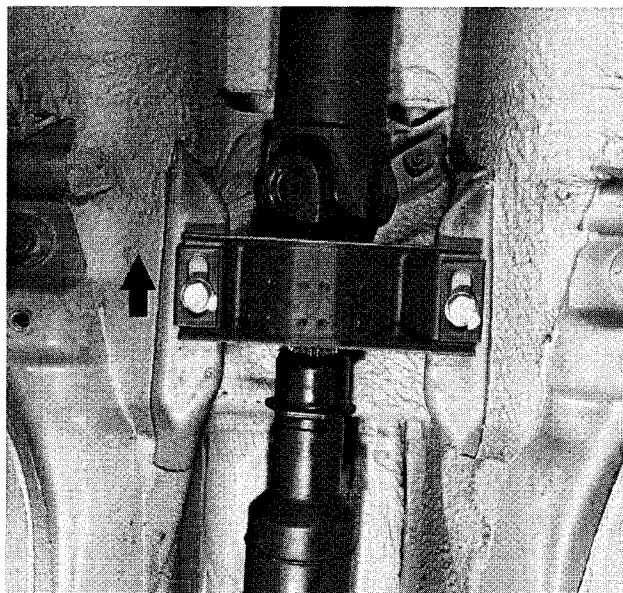

Fig. 6. Preload center bearing toward front 4-6 mm (arrow).
4. Preload center support bearing by pushing bearing forward 4-6 mm (0.16-0.24 in.) from center. See Fig. 6. Tighten attaching bolts.